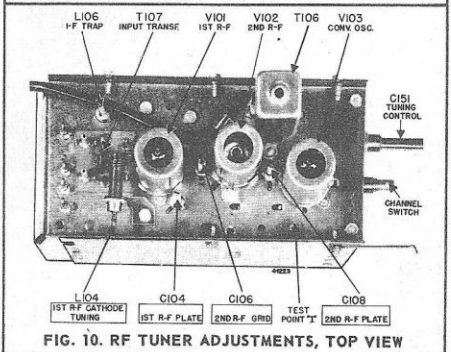

FIG. 10. RF TUNER ADJUSTMENTS, TOP VIEW
- (c) Observe response curve at test point 1, figure 10, thru 10,000 ohm resistor. Connect test equipment ground lead to RF tuner chassis.